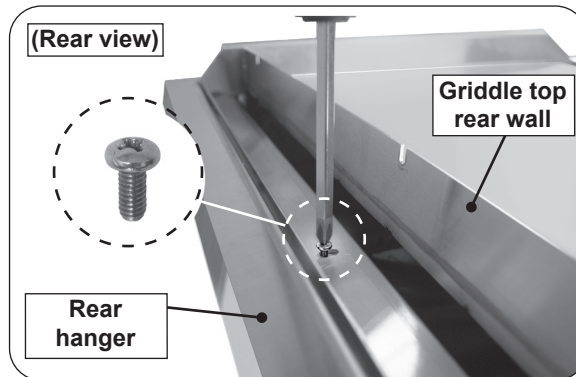

Fig. 32-3 Secure griddle top
2. Secure the griddle top by fastening the provided screw into the screw hole located on the rear of the griddle top (see Fig. 32-3).